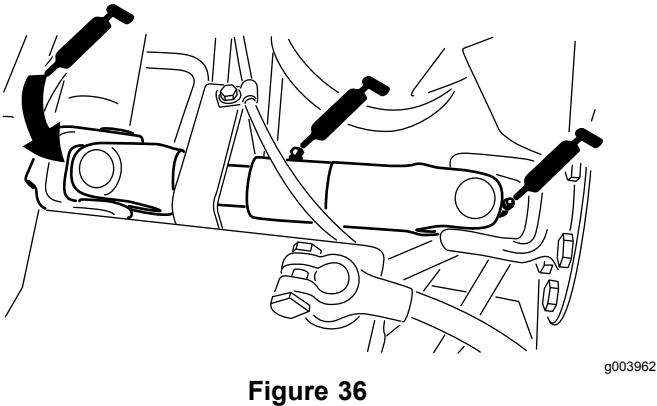

Figure 36
- Pump-driveshaft U-joint (3) (Figure 36)